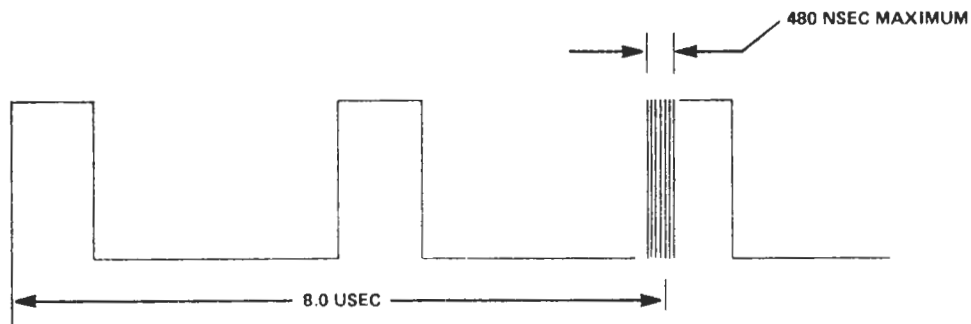

Figure 2-3
2.1.2.4 Observe the following pattern (see Figure 2-3).
- 2.1.2.5 Measure the amount of jitter present on the leading edge of the third pulse (see Figure 2-3). The leading edge of the third pulse should start $8 \text{ usec} \pm 240 \text{ nsec}$ from the trigger pulse. Jitter on the third pulse of greater than $\pm 240 \text{ nsec}$ (480 nsec edge-to-edge) indicates excessive ISV.